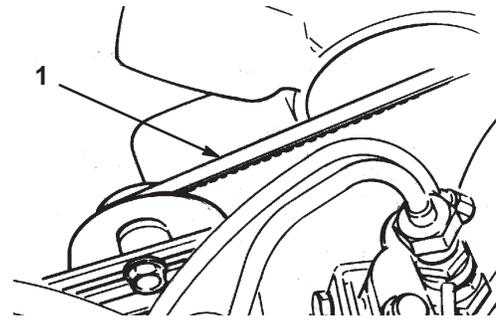

**Figure 55**
2. Start the engine, move the throttle to SLOW, and check the front wheel that is off of shop floor; it must not be rotating. Loosen the pump plate nuts and rotate pump plate (Fig. 55) until creep does not occur in either direction. When the wheel stops rotating, tighten the nuts to lock the adjustment. Verify the adjustment with the throttle in the SLOW and FAST position.